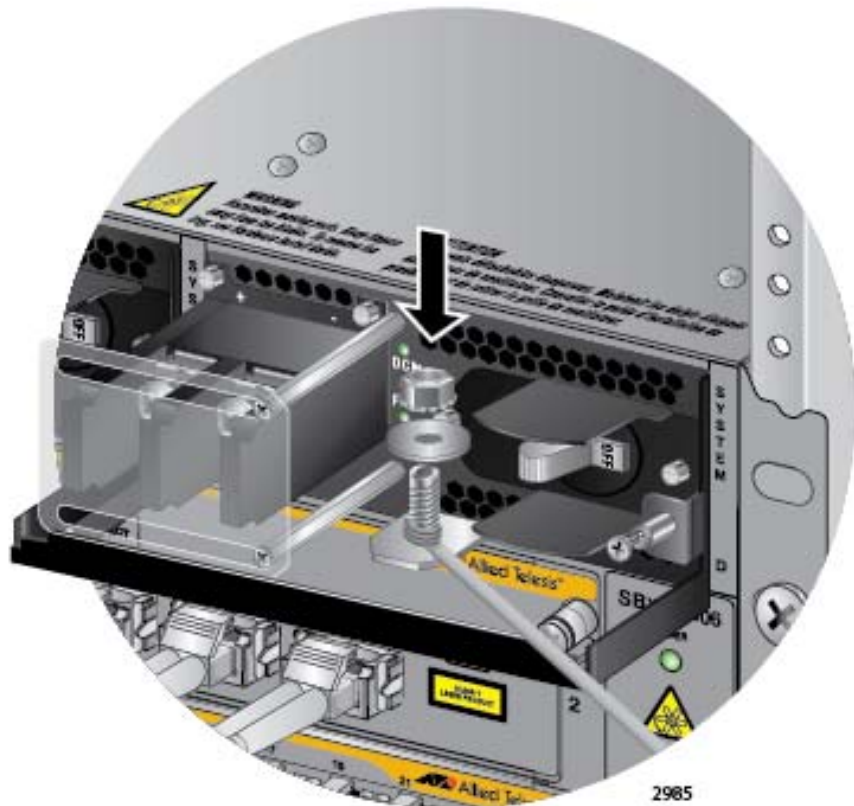

Figure 105. Securing the Bare Grounding Wire to the Grounding Post
4. Secure the wire with the nut and washer removed in step 2, and an 8 mm wrench, as shown in Figure 105.